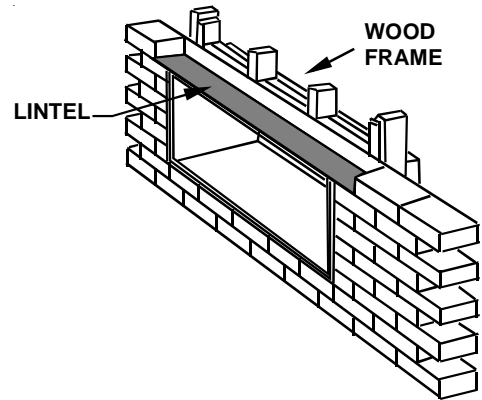

Figure 5 - Framing with Lintel
- If installed in a concrete or masonry wall, a lintel must be provided in the wall opening for support. **Do not use the wall sleeve as a lintel.** See Figure 5 for a typical lintel construction.